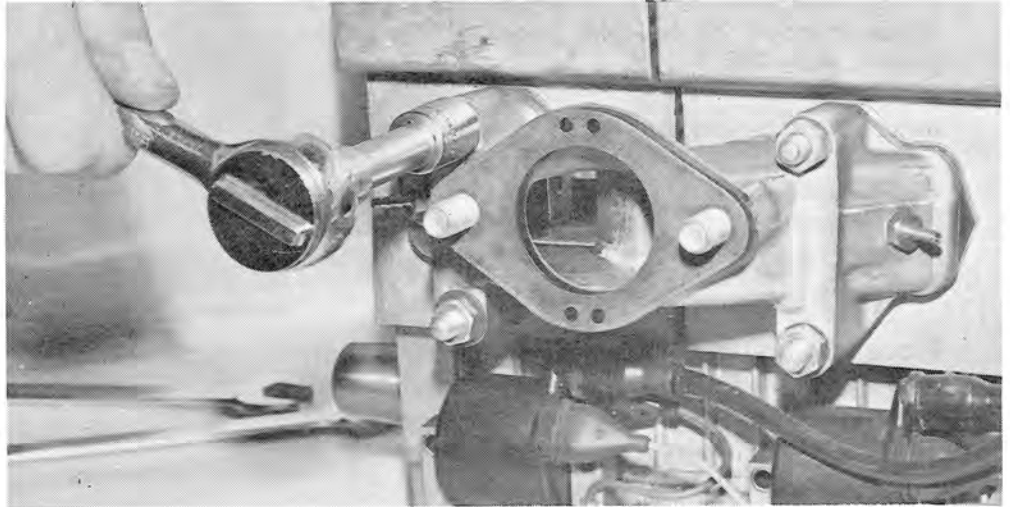

FIG. 1-39
Temporarily install the intake manifold without gaskets and tighten manifold nuts to sixteen (16) to eighteen (18) foot pounds. See Fig. 1-39. Cylinder base nuts may now be torqued to sixteen (16) to eighteen (18) foot pounds as outlined on specification page. The proper piston height can be measured at the top of the cylinder. The edge of the crown of the piston must not protrude above the top of the cylinder with the piston in the top dead center position. If the piston does protrude above the cylinder, a thicker base gasket must be used. See specification page for dimensions and color coding. It is important that only one cylinder at a time be adjusted or the crankcase will separate and lose it's seal.